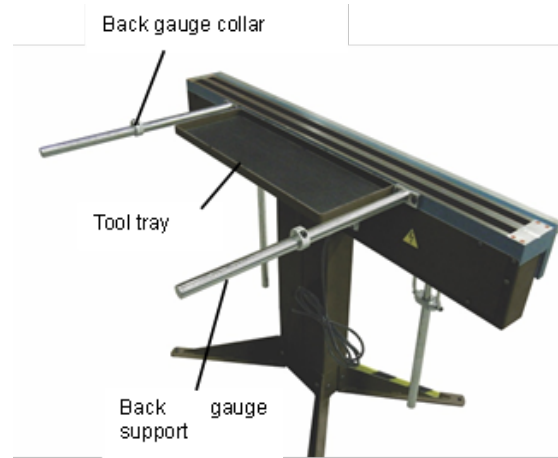

Figure 6-5
1. Using (3) M8x12 socket cap screws attach the tool tray to the back of the brake.
3. Attach each back gauge bar to the brake with (2) M8x16 socket cap screws.
5. Slide a back gauge collar onto each bar as shown in (fig. 6-5).